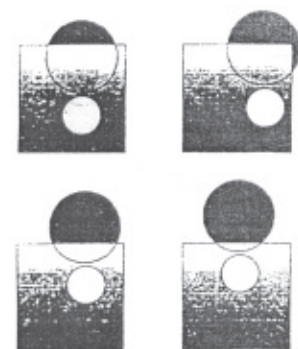

Figure4-Position Of Stop Block
- Step 4: The STOP BLOCK must be positioned in one of four ways. See Figure 4[see page #6]. Always position the STOP BLOCK so that it is as close as possible to the center DIE while still allowing for the thickness of the stock.